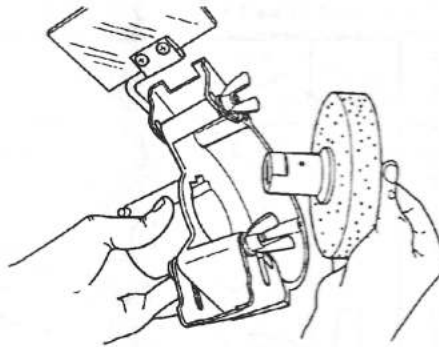

Fig. 15
**16.** Insert the arbor (13) into the "neck" of the guard, as seen in Fig. 15.